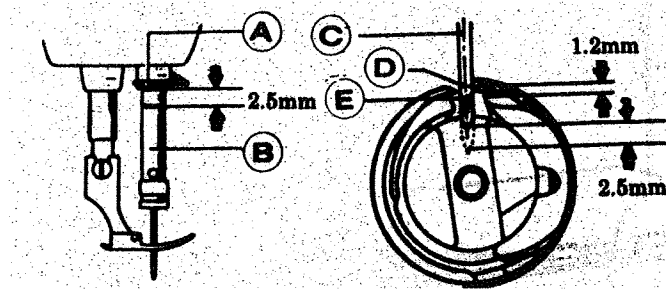

Fig. 33
2) Adjusting rotating hook point timing with needle (fig. 33)